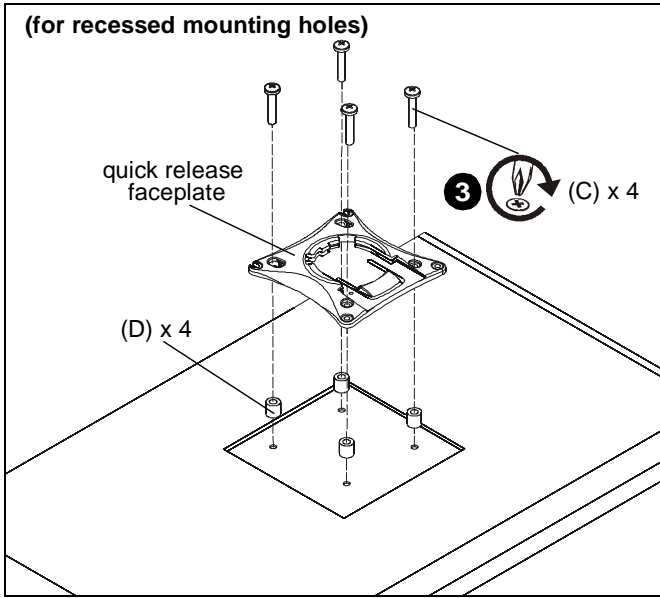

Figure 10
- Place four spacers (D) on top of mounting holes on back of display. (See Figure 10)
- Using Phillips screwdriver, carefully install four M4x25mm screws (C) through corresponding holes on faceplate, spacers (D) and into the mounting holes on the display. (See Figure 10)